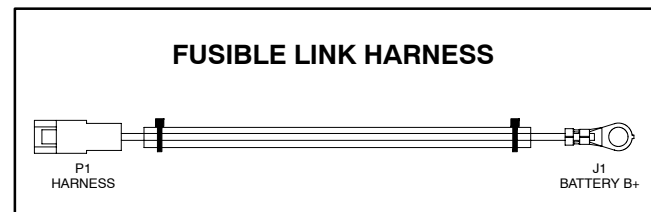

Figure 13
4. Use a multimeter to make sure that continuity exists between the disconnected fusible link connector and the link terminal at the starter motor (Fig. 13). If the fusible link is open (no continuity), replace the fusible link harness.